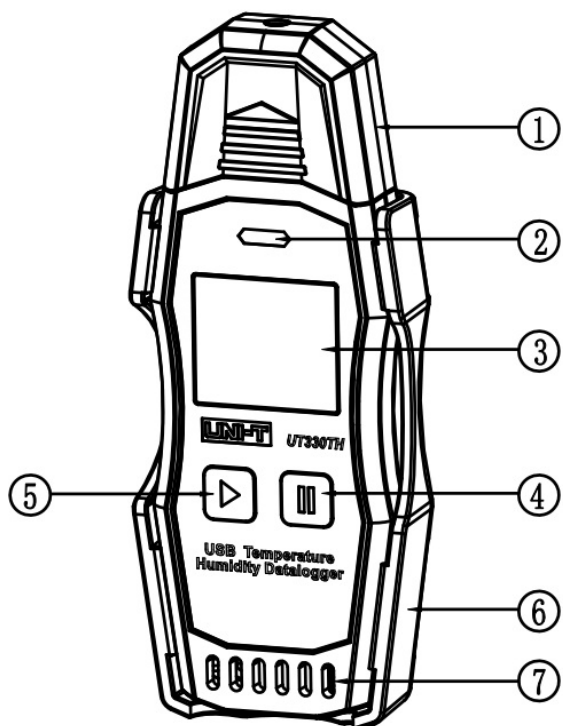

Figure 1
- 4 Structure \(Figure 1\)
Structure (Figure 1)